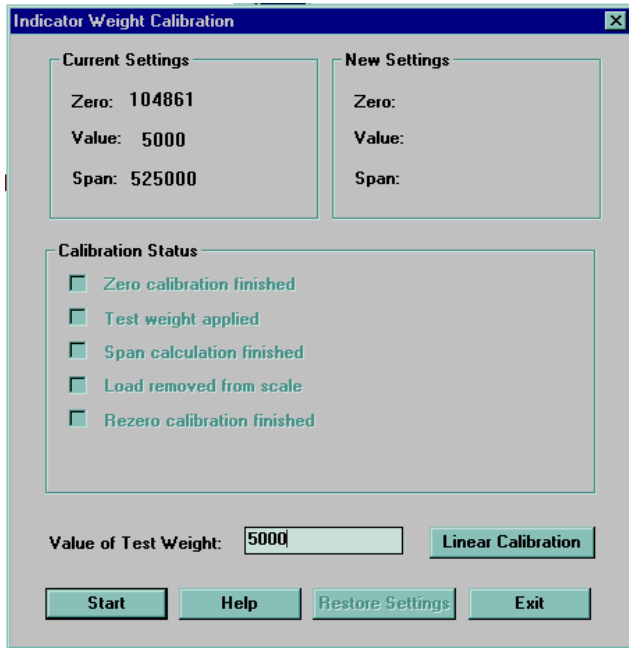

Figure 4-3. Revolution Calibration Display
4. Revolution uploads calibration data from the indicator then presents the information in a display like that shown in Figure 4-3.